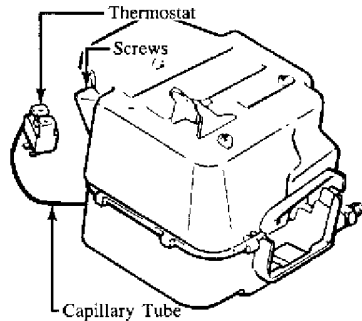

Fig. 2: Removing 2 Screws Securing the Thermostat
**NOTE:** Do not damage the capillary tube attached to the thermostat by excessive bending or twisting. See Fig. 2.